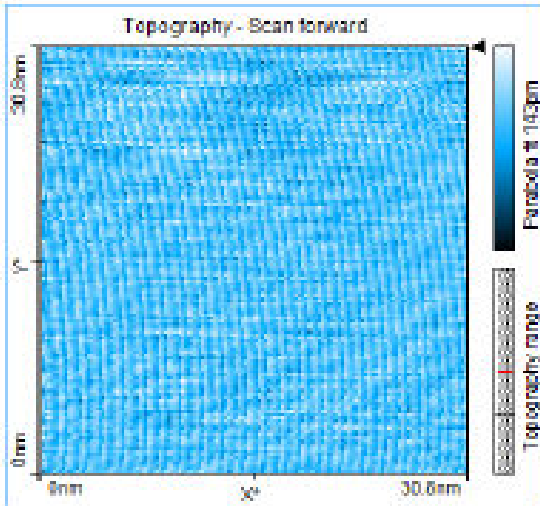

Fig. 14:
- Change the size of the new scan range to about 30–50 nm (Fig. 14) by clicking and dragging a corner of the square with the mouse cursor.